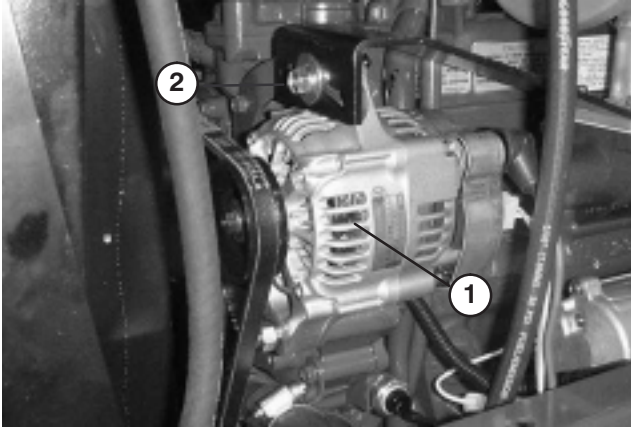

Figure 41
1. Condition and Tension – Check condition and tension of belts (Fig. 41) after every 100 operating hours.